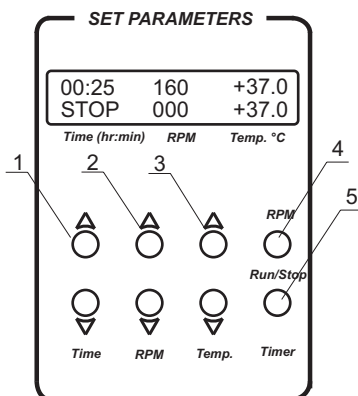

Fig.1 Control panel
- 4.3. Using the ▲ and ▼ **Time** keys (Fig. 1/1) set the required working time interval in hours and minutes (increment 1 min). Pressing the key for more than 3 sec will increase the increment.
- 4.4. Using the ▲ and ▼ **RPM** keys (Fig. 1/2) set the required shaking intensity in revolutions per minute (increment 10 rpm). Pressing the key for more than 3 sec will increase the increment.
- 4.5. Using the ▲ and ▼ **Temp.** keys (Fig. 1/3) set the required temperature (increment 0.1°C). Pressing the key for more than 3 sec will increase the increment.
4.7. Press the **RPM-Run/Stop** key (Fig. 1/4). The platform will start rotating and the timer indicator will start counting up the time interval (with 1 min precision).
Caution: At the end of the set time period the platform movement is stopped automatically, but the heating can be stopped **ONLY** manually by reducing the temperature using the **▼ Temp.** key (Fig. 1/3 - lower key) till the **OFF** sign appears in the upper line of the display.
4.10. The timer can be restarted during the unit operation if necessary. Press the **Timer-Run/Stop** key once (Fig. 1/5) to stop the timer. Press the **Timer-Run/Stop** key again to restart the timer.